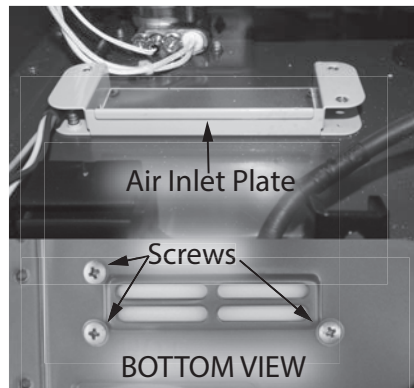

Figure 226 - Air inlet plate location
18 Locate the three (3) screws securing the air inlet plate to the water heater cabinet. Use a Phillips screwdriver to remove the screws. Place screws aside in a safe place for reinstallation. See Figure 226. Note the orientation of the plate when removed and returning to that orientation when reinstalling it.